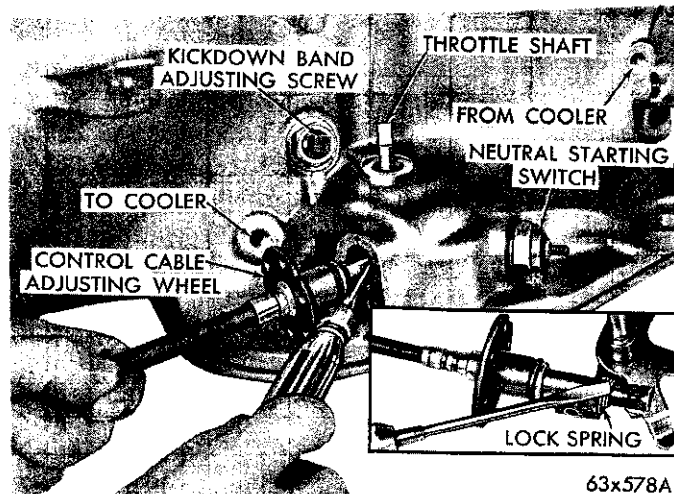

Fig. 17—Removing Gearshift Control Cable
- (1) Raise the vehicle on a hoist.
- (2) Remove the gearshift control cable to transmission adjusting wheel lock screw. Pull the cable outward just enough to allow the fluid to drain into a container.
- (3) Pull the cable out of the transmission case as far as possible, back off the adjusting wheel a few turns if necessary.
- (4) Insert a small screw driver above and slightly to the right of the cable (Fig. 17). Disengage the cable adapter lock spring by pushing the screw driver handle to the right while pulling outward on the cable.
The kickdown band adjusting screw is located on the left side of the transmission case near the throttle lever shaft (Fig. 17).